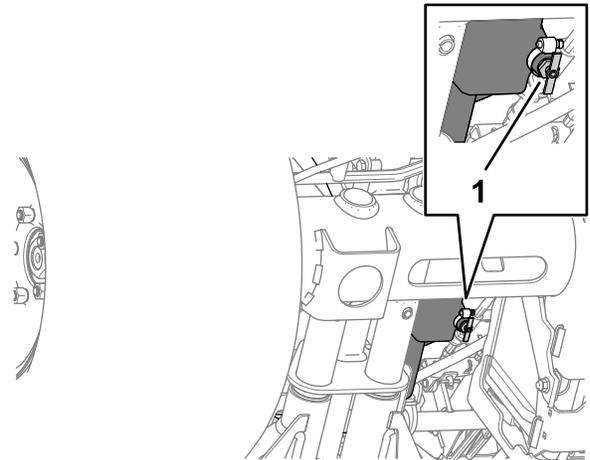

Figure 85
2. Align a drain pan under the fuel tank-drain valve (Figure 85).